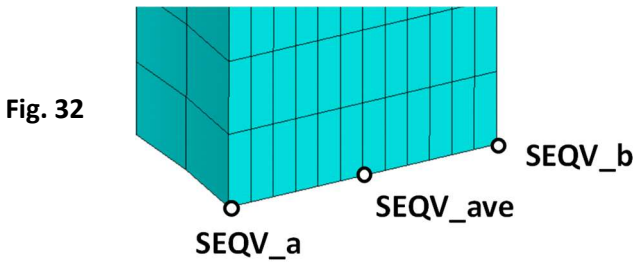
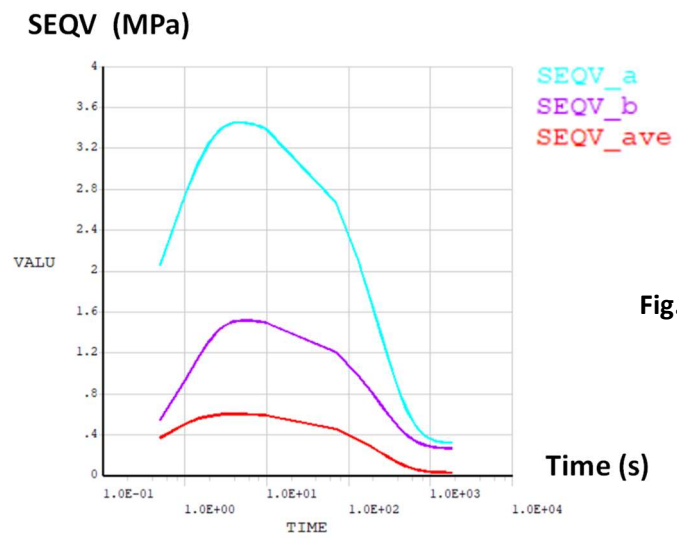

Fig. 33
Fig. 34
17. List stress values (Fig. 33). Check the time at which the Von Mises stress reaches maximum (Fig. 33) and plot and save the graph as an image (logarithmic scale for time) (Fig. 34). Fill the time value in Table 8.